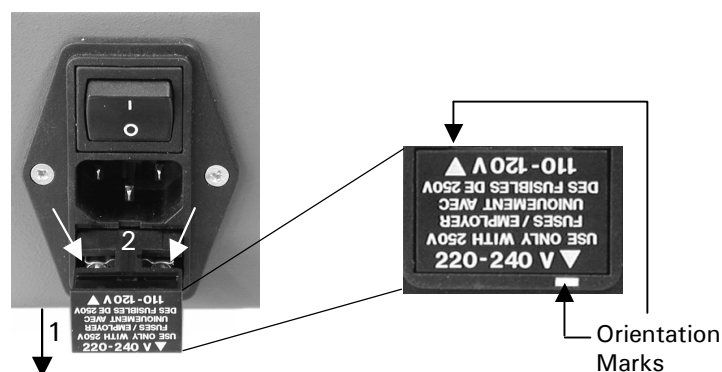

FIGURE 6-3. The Fuse Compartment
- a) Pull out the fuse holder (FIGURE 6-3, item 1).
Caution: Make certain that the fuse holder is inserted in the correct position so that the appropriate voltage setting is indicated (FIGURE 6-3 indicates the configuration for 220-240 V).